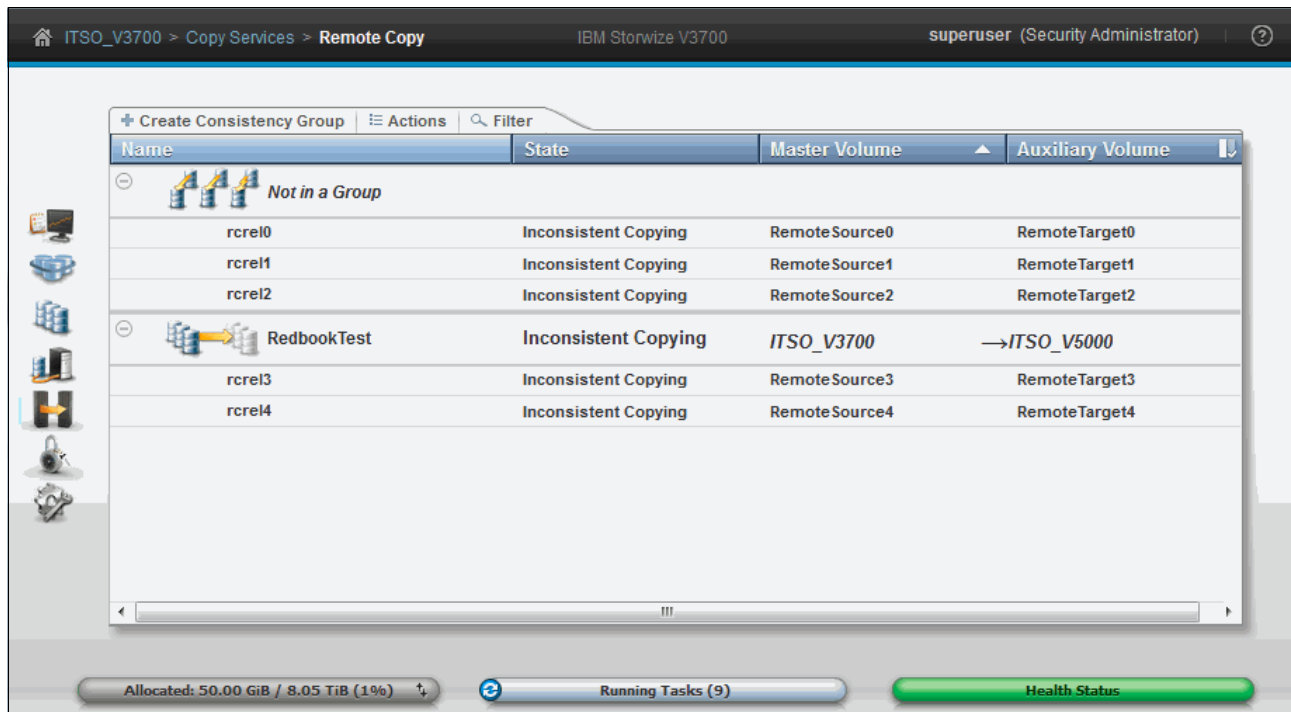

Figure 3-86 Remote Copy pane
1. Click **Remote Copy** in the Copy Services menu to open the pane shown in Figure 3-86.